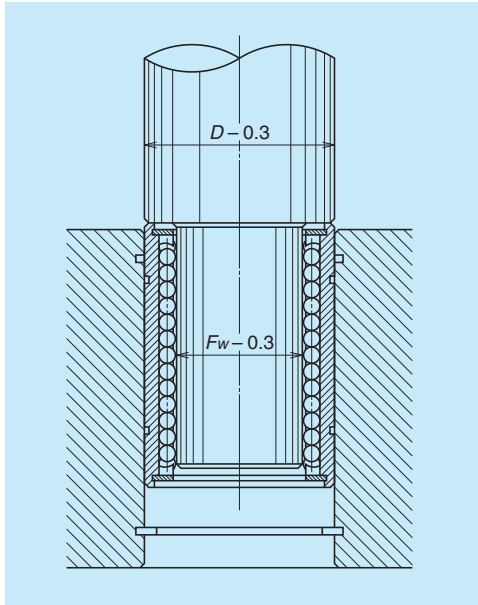

Fig. 10 Tool to install a linear rolling bushing
b) To install linear rolling bushing, use a tool (Fig. 10) and squeeze it in, or use a holder and lightly pound it.